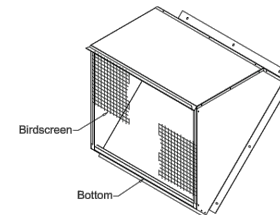

Figure 3 — Top and Front Assembly
3. Assemble the top to the front and sides overlapping with the flanges as shown in Figure 3. Use 5/8" length supplied sheet metal screws.